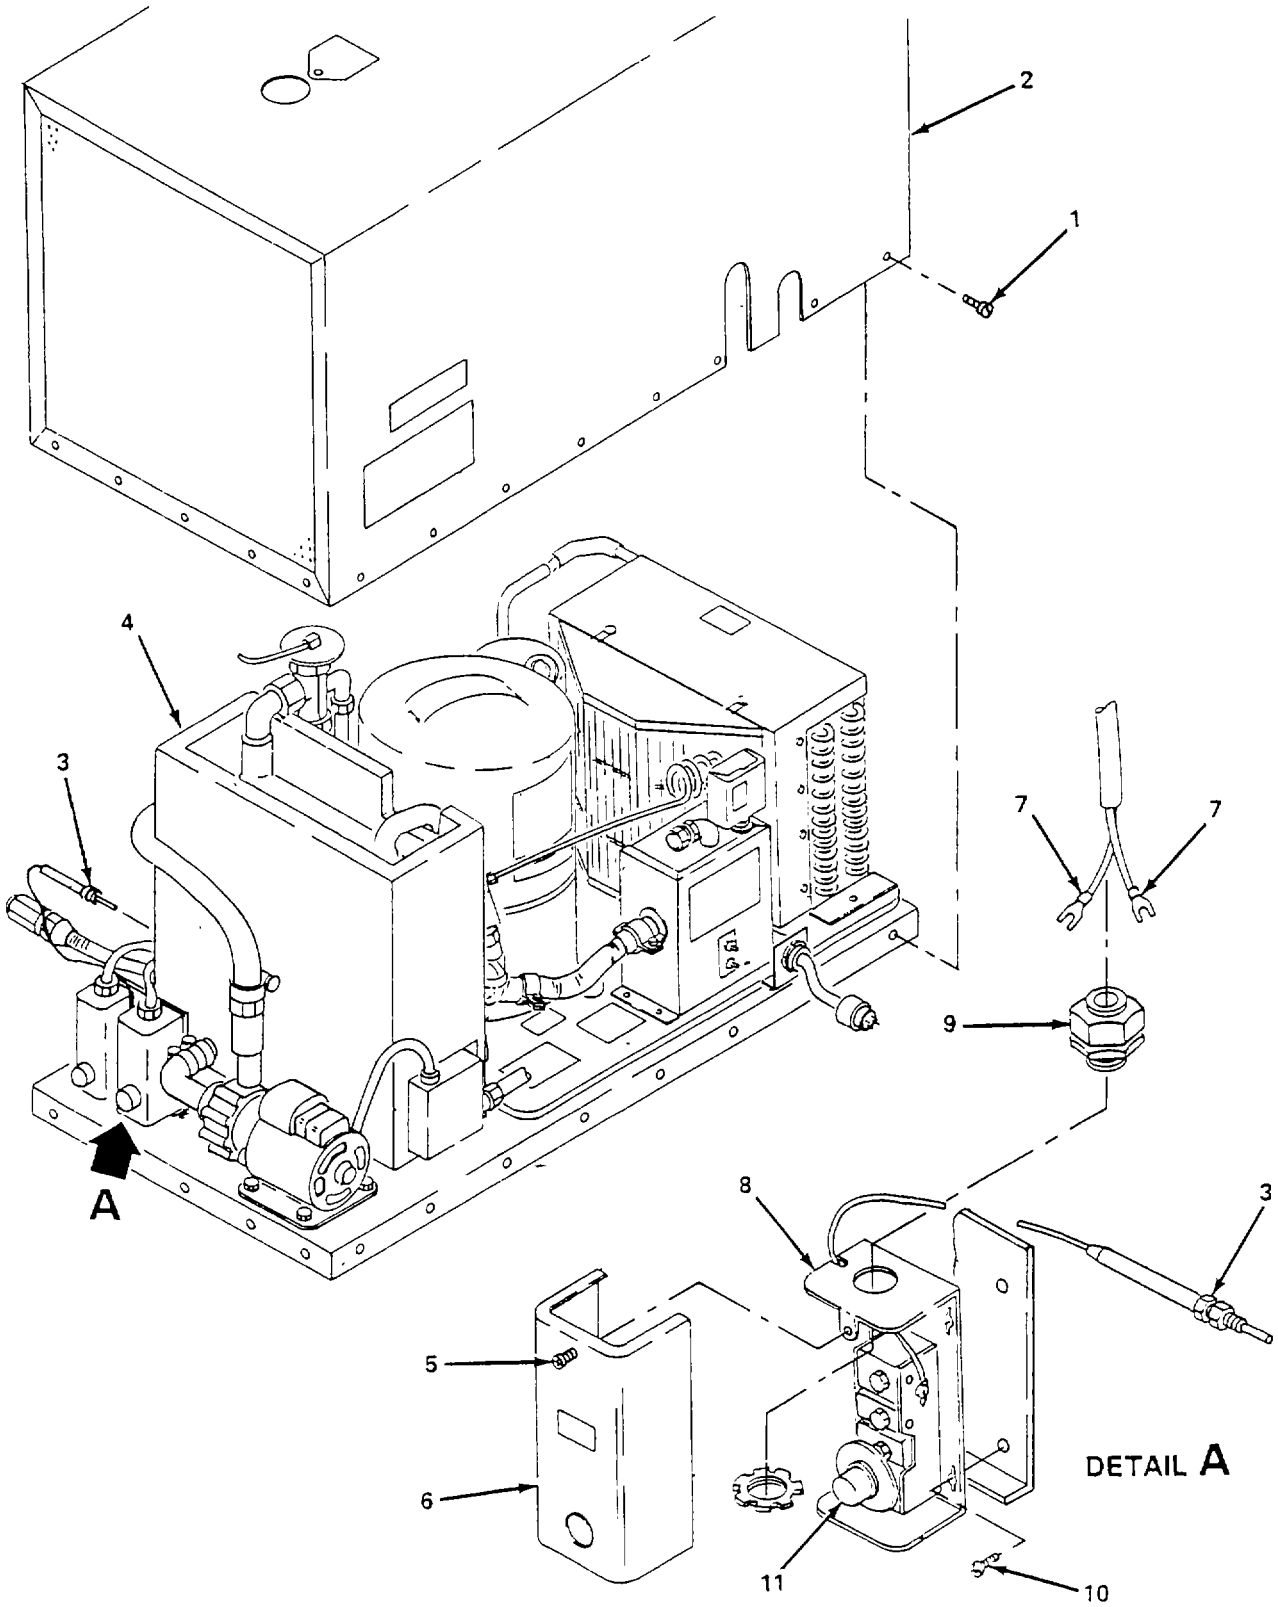

Figure 6-32. High Temperature Control Unit, Replace.
a. Replace. (figure 6-32)
- (1) Remove 14 screws (1) and remove cover (2).
- (2) Remove packing nut assembly (3) from reservoir (4).
- (3) Loosen captive screw (5) from cover (6).
- (4) Tag and disconnect two wires (7) from control unit (8).
- (5) Remove cable connector (9) and remove two wire (7).
- (6) Remove two screws (10) and remove control unit (8).
- (7) Install control unit (8) and secure with two screws (10).
- (8) Install two wires (7) through cable connector (9) and install connector on control unit (8).
- (9) Connect two wires (7) to control unit (8).
- (10) Set high temperature to 130°F (54°C) by adjusting control knob (11).